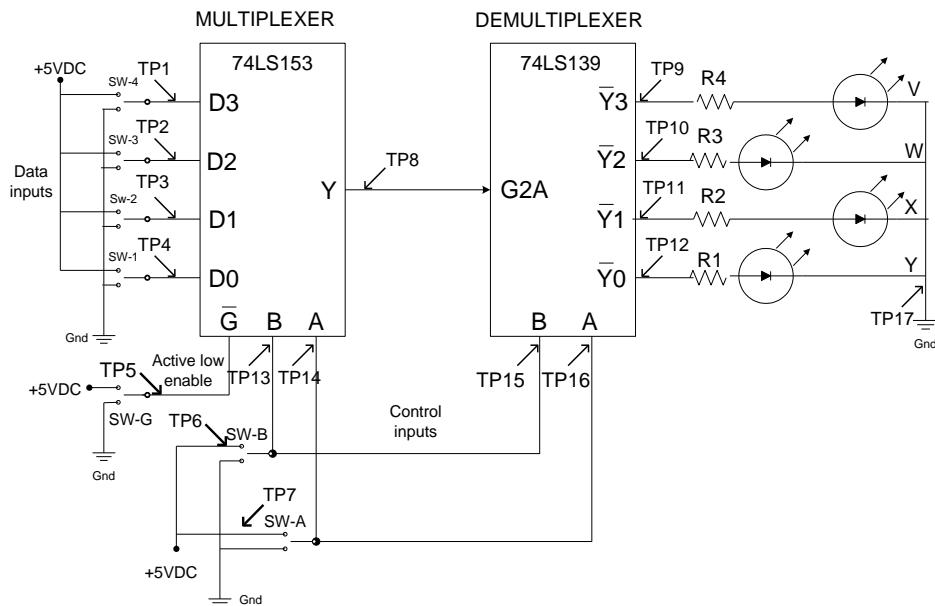

Figure 12: Multiplexer/Demultiplexer Circuit and Test Points (TP)
1. With the bread board power supply on, use the multimeter and perform voltage check in every test points as shown in Figure 12.